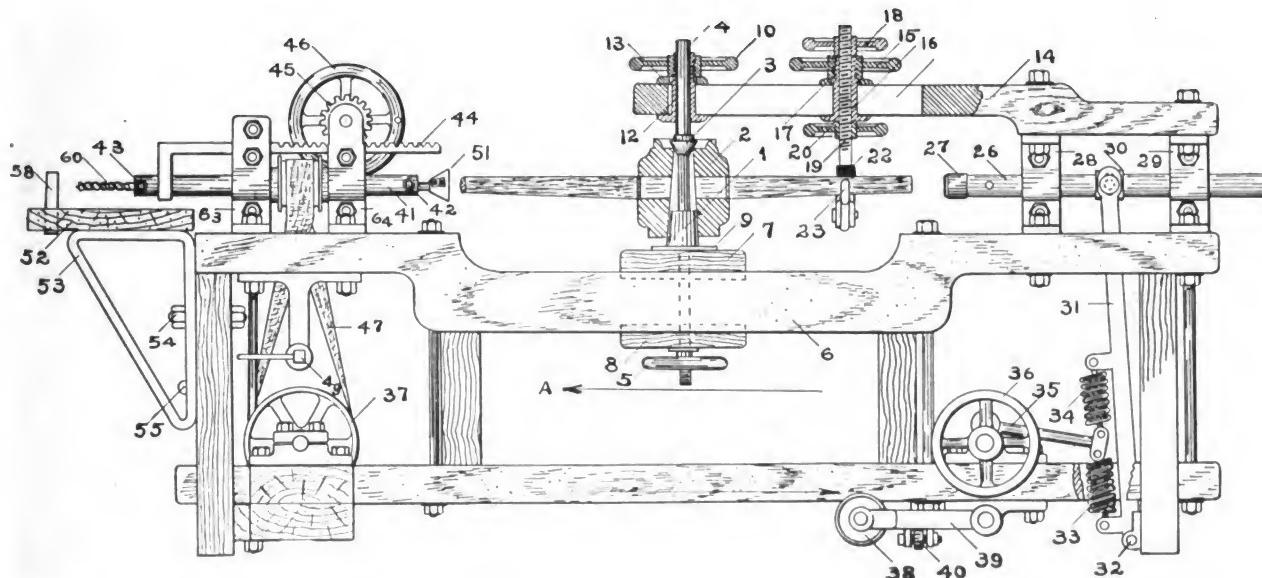

FIG. 1—A PRACTICAL WHEEL-BUILDING MACHINE THAT COMBINES SEVERAL LABOR-SAVING FEATURES
**Operation:** Select a bushing, 1, that fits the hub or wheel, 2 (see Fig. 1). Next, place the wheel or hub in the position shown, and put the cone-shaped bushing, 3, in place; the rod, 4, may then be put in position. The rod, 4, has a shoulder by means of which with the hand wheel, 5, the wheel or hub is clamped solidly upon the frame, 6. This operation clamps the sliding parts, 7 and 8, at the same time. The wheel or hub may be adjusted to proper height by thin wood or metal parts, 9. The pieces, 9, are slotted to allow them to be slipped in place under the wheel. When driving the spokes it is necessary to secure the top end of rod, 4. This may be done in the following manner: Screw the hand wheel, 10, downward, which clamps the parts, 12 and 13, solidly to the beam, 14. The position of the wheel may be adjusted easily as shown.
the arrow A (Fig. 1). This belt runs slack when idle and may be tightened by the idler pulley, 38, carried by the arm, 39. The idler pulley, 38, may be raised and lowered by the lever, 40. The pulley, 38, and parts are to be heavy enough to hold the lever, 40, in a raised position, so that it is only necessary to press with the foot upon the lever, 40, to put the driver in action.